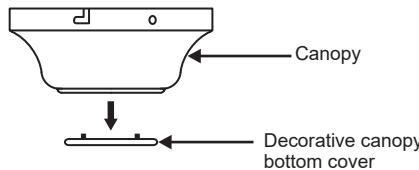

Fig. 8
**Step 1.** Remove the decorative canopy bottom cover from the canopy. (Fig. 8)